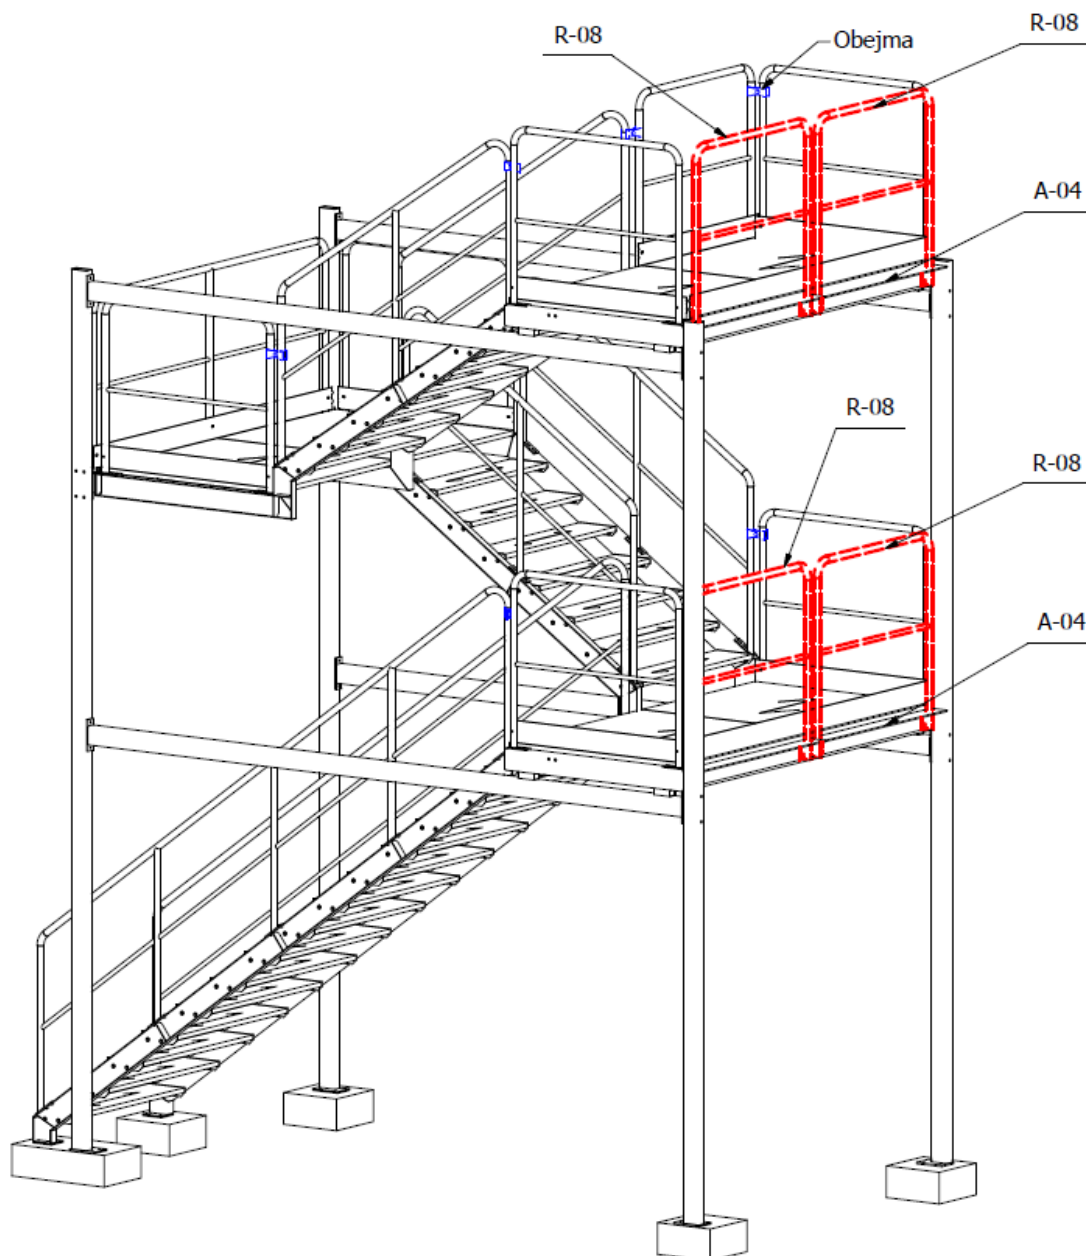

Fig. 19. Schematic arrangement of railings and brackets for the variant D
- Mount the toe-boards using bolts M6x30 according to Fig. 19 using the following scheme: